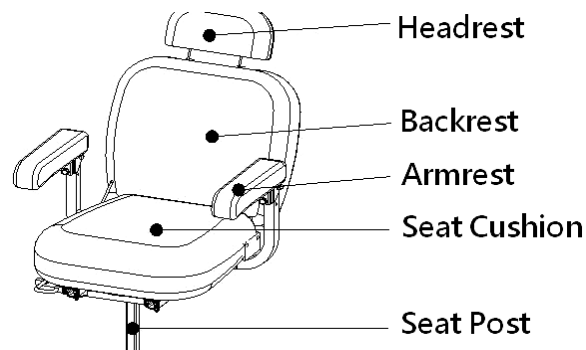

FIGURE 7.3
7.8.1 Please refer the components of the seat (see Figure 7.3) and follow the below instructions
7.12.2 Figure 7.3 shows the location where a pelvic belt can be attached by your Karma service provider. They have all the tools, service manuals and technical know-how to assure your safety through a proper installation. Karma does NOT recommend installation of a pelvic belt by anyone other than an authorized Karma service provider